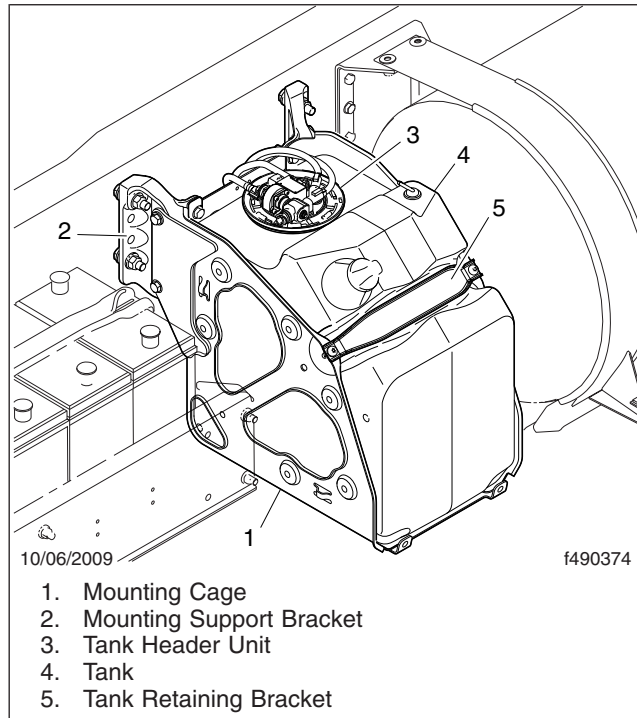

Fig. 8, 13- or 23-Gallon DEF Tank Mounting Assembly
12. Remove the fasteners that secure the tank retaining bracket to the tank mounting cage. See Fig. 8.